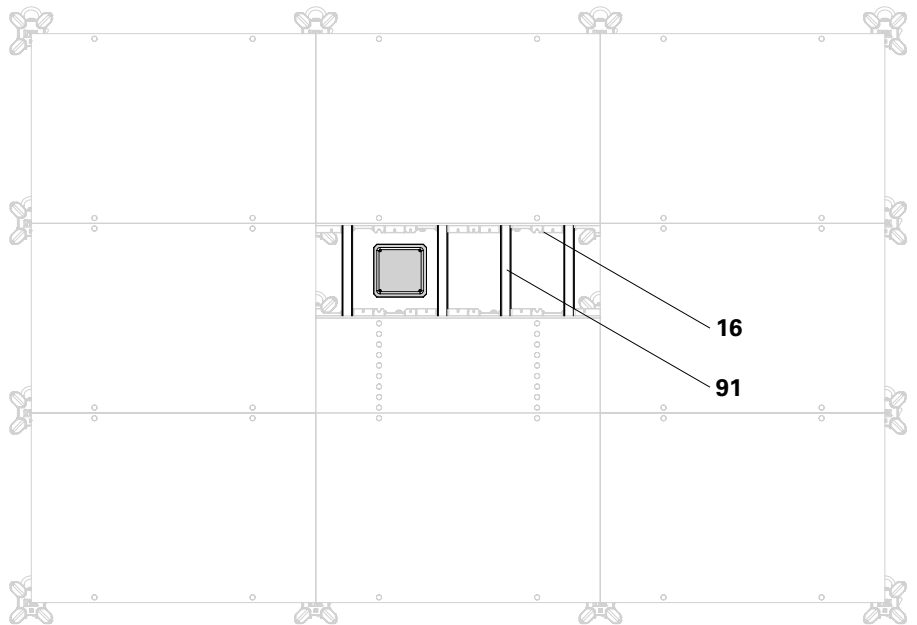

Fig. D3.08
9. From below, screw the square timber into place through the screw holes provided in the filler support using Torx 5 x 15 screws. (Fig. D3.08)